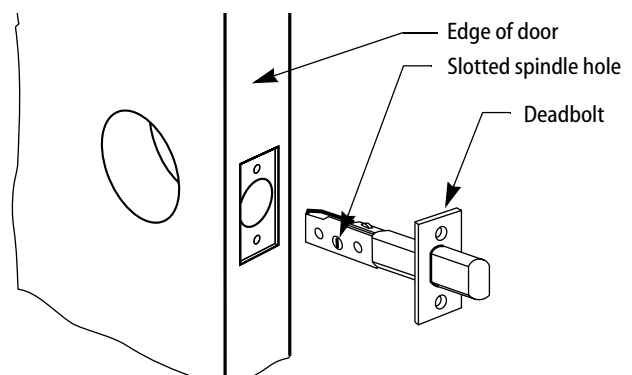

Figure 5 — Installing the deadbolt
- 1 Insert the deadbolt with the slotted spindle hole at the bottom of the assembly. See Figure 5.